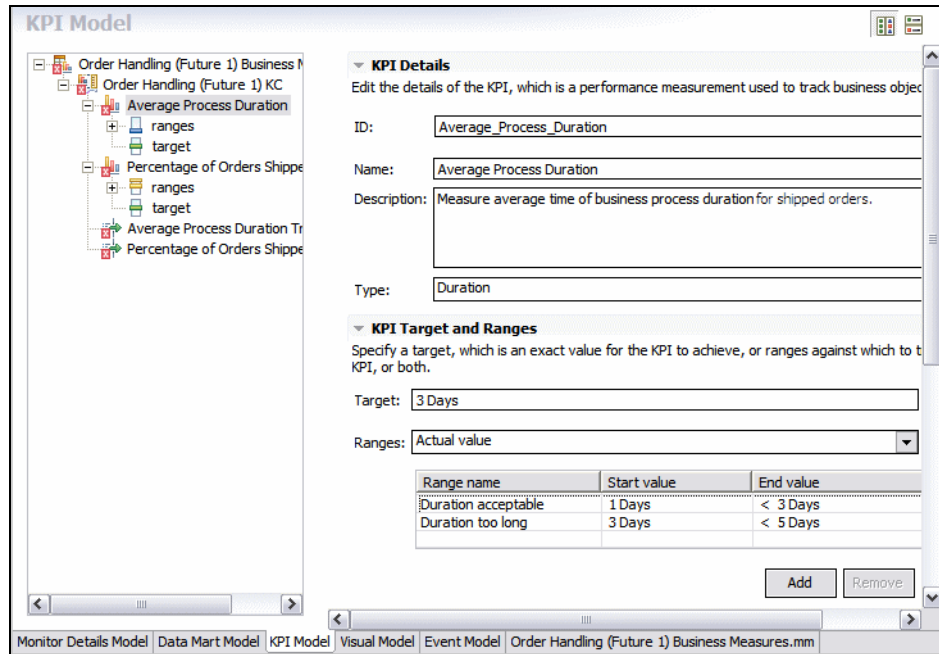

Figure 12-6 KPI Model: imported
- ▶ The KPI Model tab shows the KPIs defined in the Modeler (Figure 12-6).